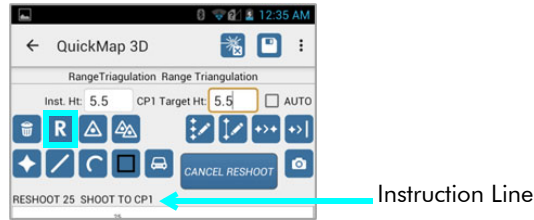

Figure 49
The Reshoot button **R** is located in the toolbar in the upper left area of the Data Collection screen (Figure 49) in all mapping methods. To re-shoot a point other than the last point measured, see Point Detail on Page 65.
1. Tap the Reshoot button (Figure 49). Notice the Cancel Reshoot button has displayed, tap this button to abandon the operation at any time.